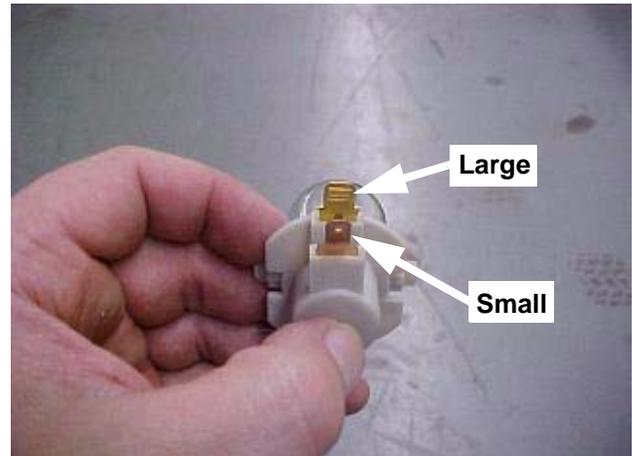

FIGURE 9
10. Connect the wire terminal leads to the lamp bulbs. **NOTE:** The male lamp terminals consist of two different sizes as shown in Figure 9. Make sure to connect the appropriate female terminal of the wire harness to the correct size male terminal of the lamp bulb. (Red wire terminal is smaller than the green wire terminal).